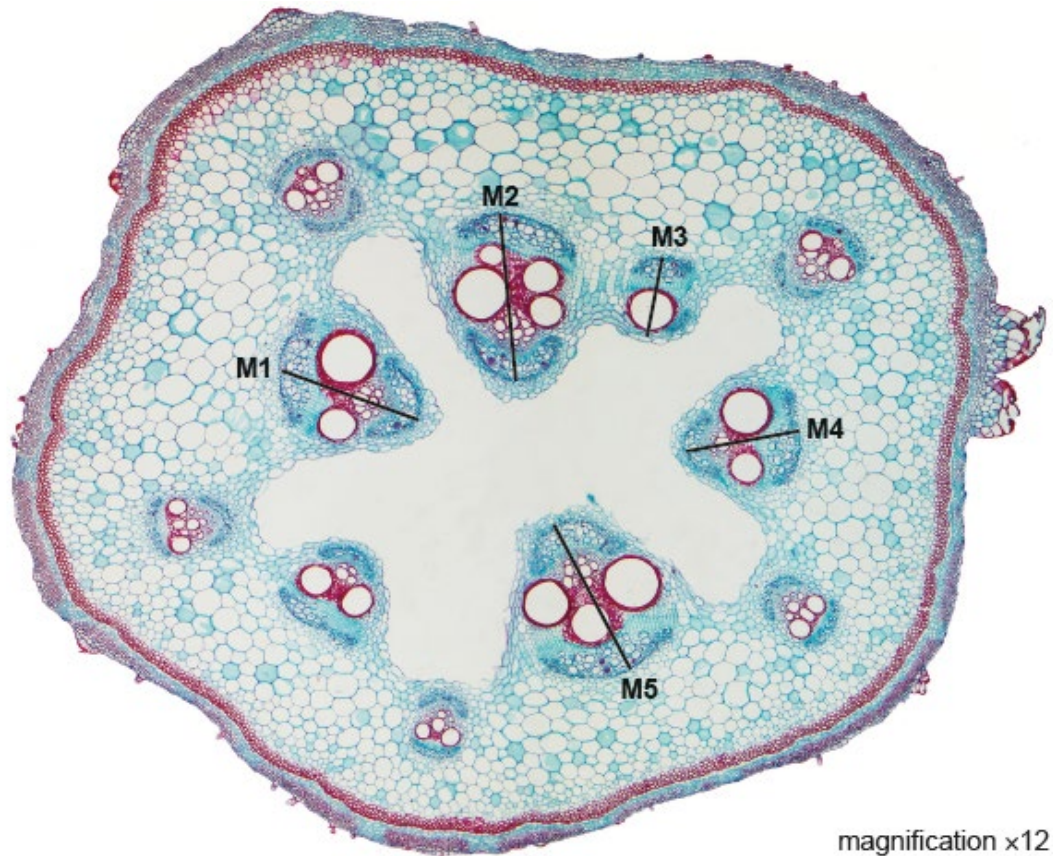

Fig. 3.3
Fig. 3.3 is a photomicrograph of a stained transverse section of a stem from a different plant.
- (ii) Measure the length of the vascular bundles using the lines **M1**, **M2**, **M3**, **M4** and **M5** in Fig. 3.3 **and** calculate the mean actual length of the vascular bundles.
1. measure all the vascular bundles in Fig. 3.3
- (iv) State one observable difference between the vascular tissue seen in K1 and the stem shown in Fig. 3.3. [1]
1. There is only one vascular tissue region in K1 whereas there are 11 (A: multiple / many / numerous) vascular bundles in the stem shown in Fig. 3.3.
2. The vascular tissue shown in K1 is circular in shape but each vascular bundle in Fig. 3.3 is an irregular shape. (R: curved triangle / has a pointy end)
3. The size of the vascular tissue region in K1 is smaller than a single vascular bundle in Fig. 3.3.
- Mention of cortex present in Fig. 3.3